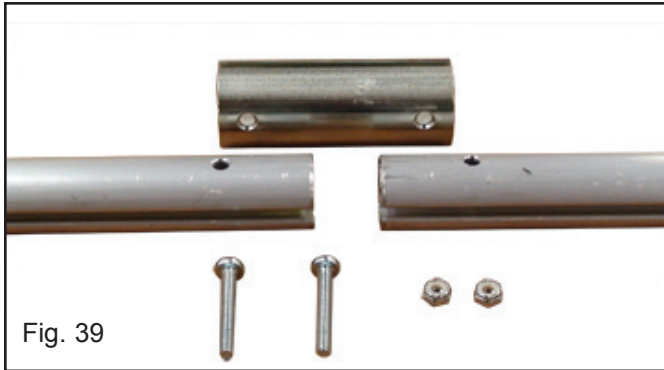

Fig. 39
Step 18. Slide the pull rod sleeve over the end of the pull rod that has the pre-drilled holes. Insert the machine screws through the bottom of the pull rod sleeve and attach the nuts on the rod. (Fig 39- 40)